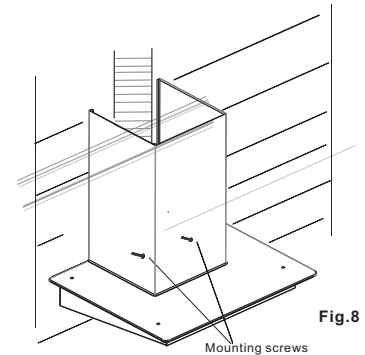

Fig.8
- Install two additional hood body mounting screws into the auxiliary mounting holes to secure the hood body in place.(Fig.8)